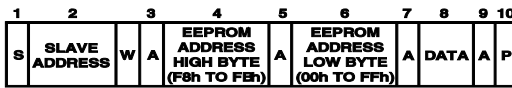

Figure 43. Single Byte Write To EEPROM
- Write a single byte of data to EEPROM. In this case the command byte is the high byte of the EEPROM address from F8h to FBh. The first data byte is the low byte of the EEPROM address and the second data byte is the actual data. This is illustrated in Figure 43